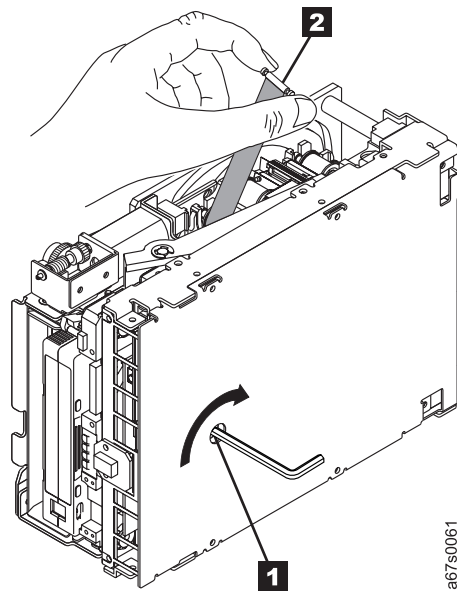

Figure 9. Rewinding the leader pin into the tape cartridge
1. Place the tape drive so that the front faces you, then tilt it on its left side (see Figure 9 on page 12).
3. If necessary, use needle-nose pliers to grasp the end of the leader pin and pull it out of the cartridge so that you can grip it with your fingers (see **1** in Figure 9 on page 12).